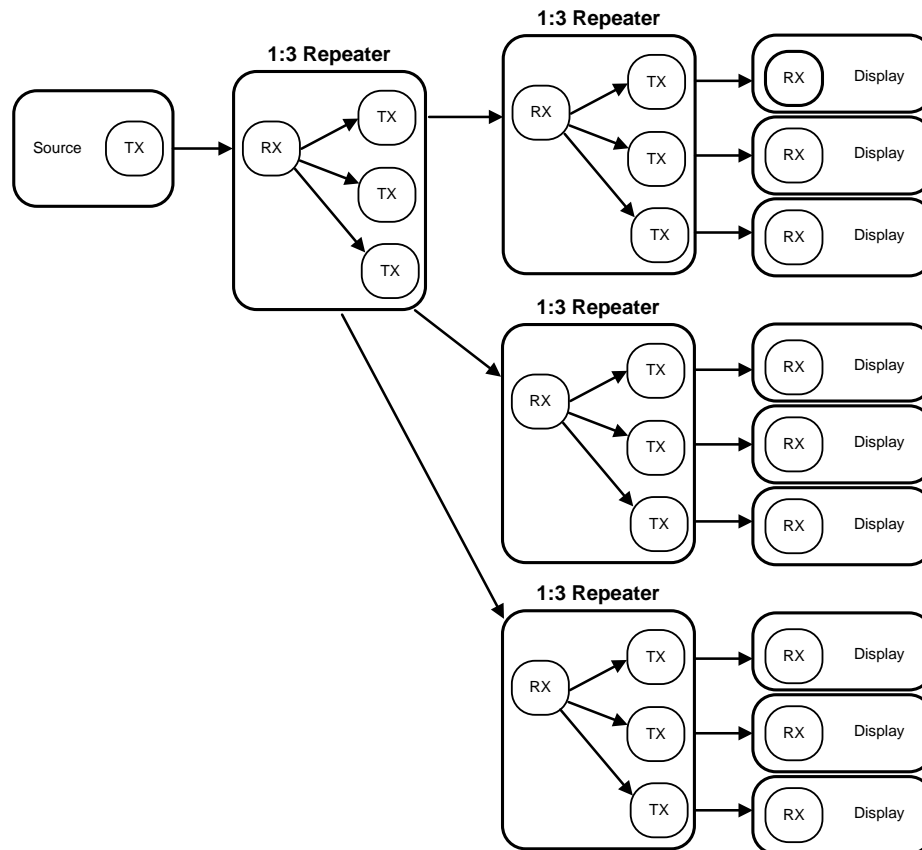

Figure 18. HDCP Maximum Repeater Application
In HDCP repeater application, this document refers to the DS90UH927Q as the HDCP Transmitter (TX), and refers to the DS90UH928Q as the HDCP Receiver (RX). Figure 18 shows the maximum configuration supported for HDCP Repeater implementations using the DS90UH925/7Q (TX), and DS90UH926/8Q (RX). Two levels of HDCP Repeaters are supported with a maximum of three HDCP Transmitters per HDCP Receiver. To ensure parallel video interface compatibility, repeater nodes should feature either the DS90UH926Q/DS90UH925Q (RX/TX) chipset or the DS90UH927Q/DS90UH928Q (RX/TX) chipset.